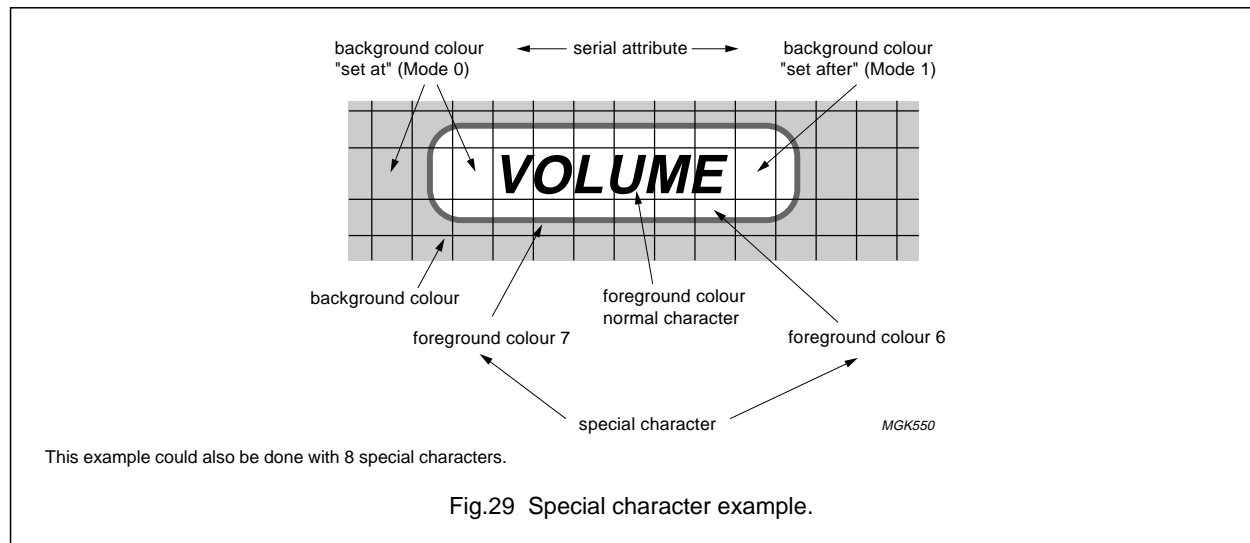

Fig.29 Special character example.
**TXT:** The foreground colour is selected via a control character (see Fig.29). The colour control characters takes effect at the start of the next character ('Set-after') and remain valid until the end of the row, or until modified by a control character. Only 8 foreground colours are available.